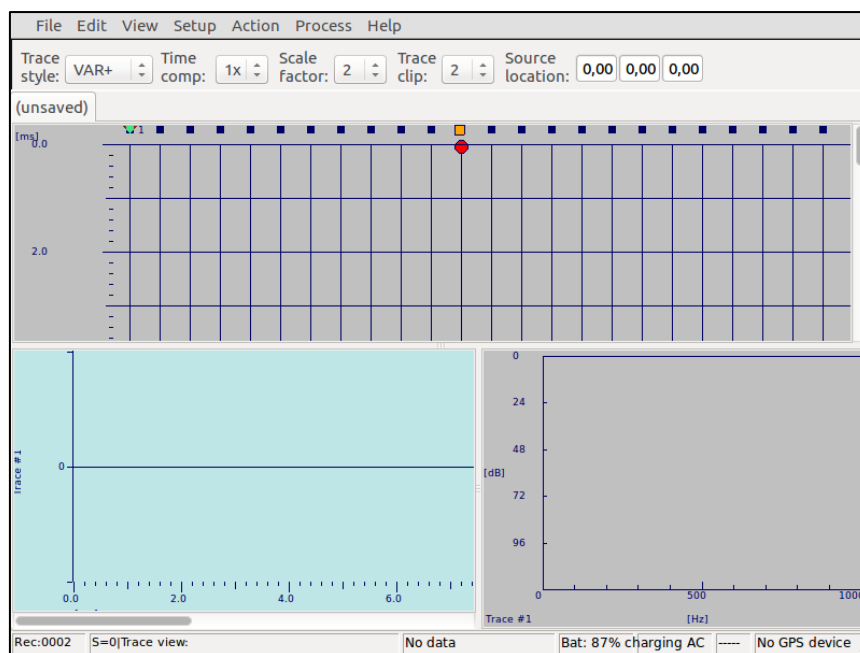
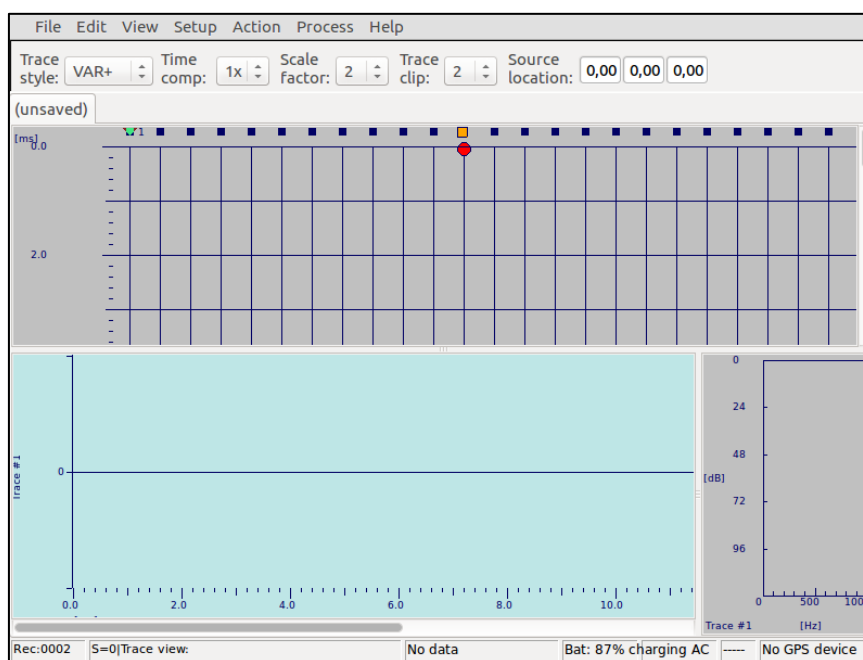

Figure 11 SeisTW with the horizontal separator moved upwards
Figure 12 SeisTW with the vertical separator moved to the right
- Changing the sizes of the views. That is, moving the separators between the views (Figure 11 and Figure 12)